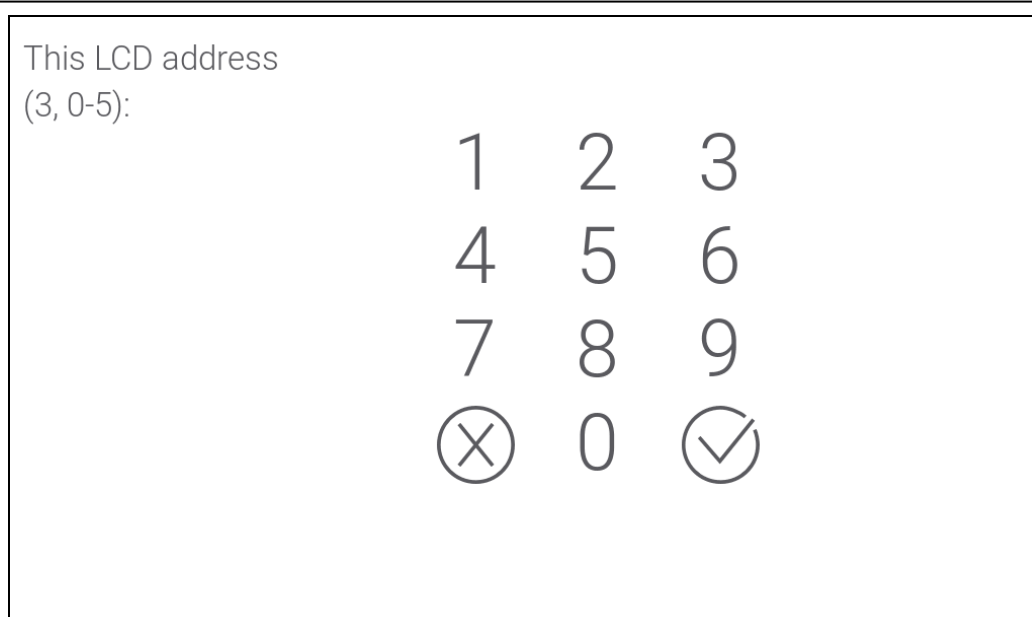

Fig. 12. Address setting.
1. Tap    . The “Keypads addr.” function will start. The message “This LCD address (n, 0-5)” will be displayed in all keypads [n – keypad address; 0-5 – range of supported addresses] (Fig. 12).